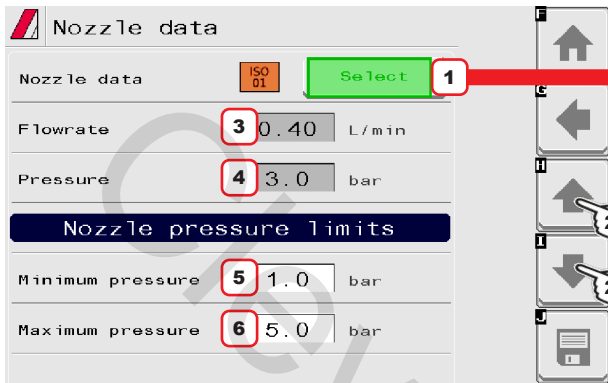
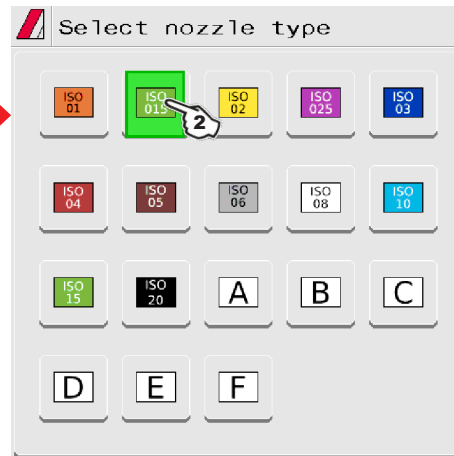

Fig. 46
Fig. 47
- 1 - 2 Select the nozzle you wish to set up (Fig. 46 / Fig. 47); enter the relevant features (Fig. 46).